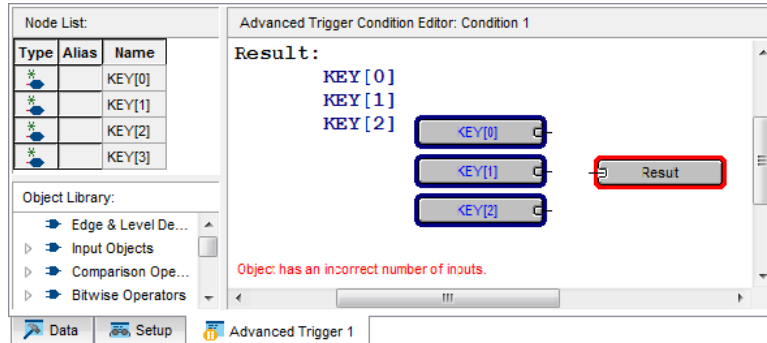

Figure 18. The three input nodes of interest dragged into the Advanced Trigger Editing Window.
- In the node list section of this window, highlight the 3 nodes KEY[0] to KEY[2], and click and drag them into the white space of the Advanced trigger window, resulting in Figure 18. Note that you can also drag and drop each node individually.